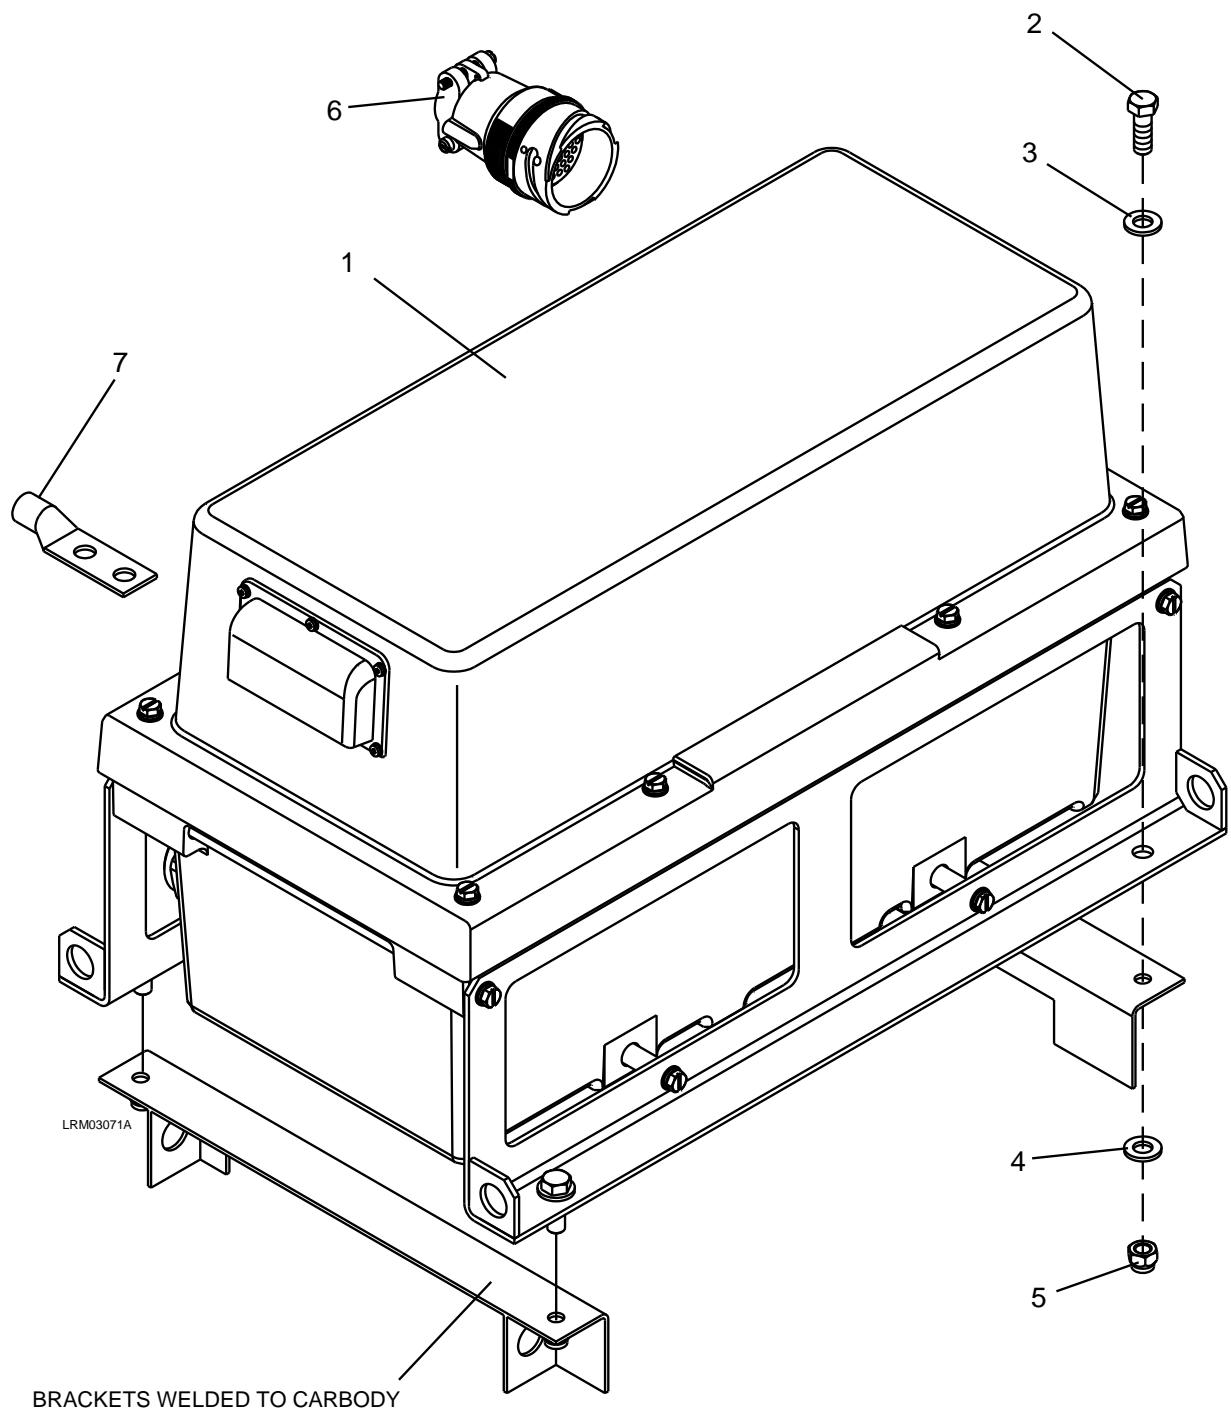

Figure 7-117: High Speed Circuit Breaker (HSCB)
2. Remove the four M12 ESNA nuts (5) and M12 plain washers (4), M12 x 35 bolts (2), and M12 plain washers (3). See Figure 7-117.
3. Carefully remove the HSCB (1) from the mounting bracket.